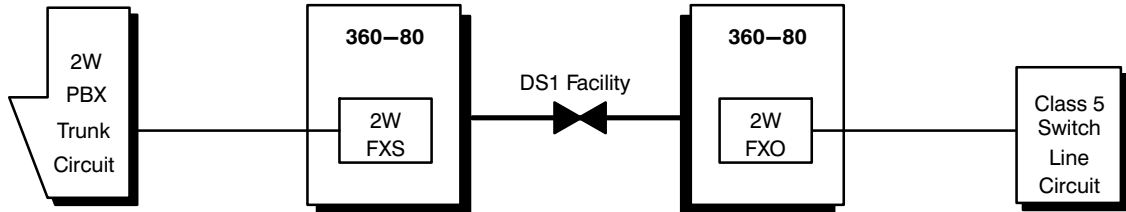
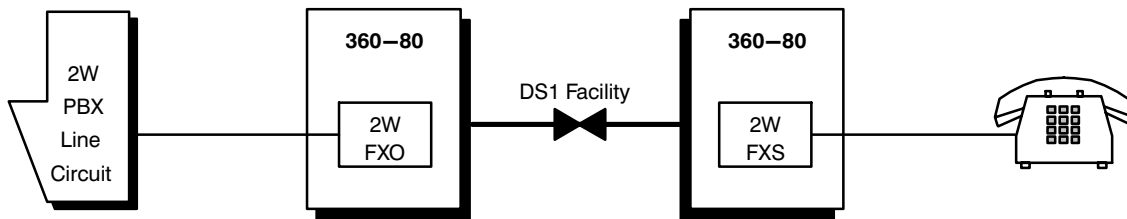

Figure 3. Typical FX (Foreign Exchange) Arrangement
Figure 4. Typical OPX (Off-Premises Extension) Arrangement
FXO units detect ringing from the office equipment, and send DC supervision and address information toward the office equipment. FXO units will generally connect to central office (CO) or PBX line circuits. Figure 3, Figure 4, and Figure 5 show some typical FX applications.